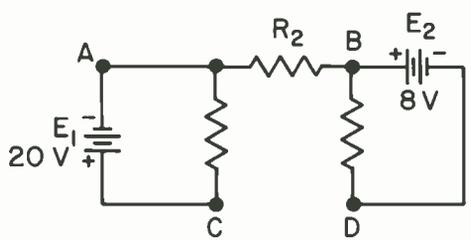

Fig. 35
- 7. Figure 35 (does) (doesn't) show that point B is positive with respect to point A.
- 8. Does any current flow through R_2 in Fig. 35?